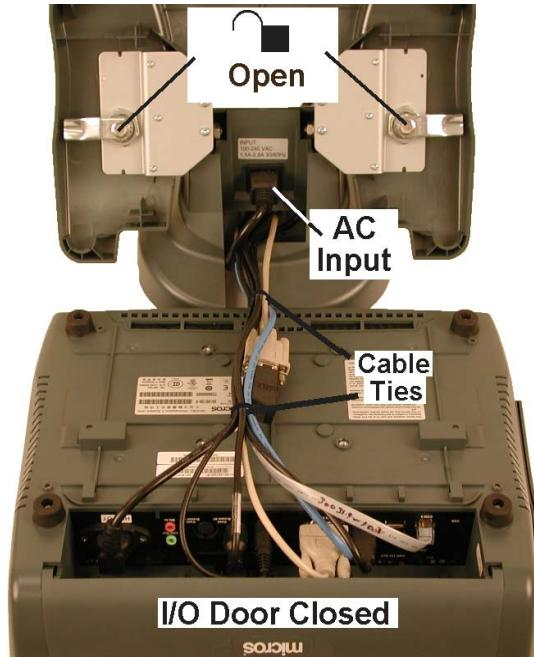

Figure 4-7: Preparing to attach the Workstation to the optional Stand
2. Refer to Figure 4-7, and prepare to mount the workstation on the stand.
- Cable the workstation. Several cable tie points are provided in the cover, and a pair of re-usable velcro cable ties supplied with the stand can be used to bundle the cables. Figure 4-7 shows two cable ties, but these may not be needed in some situations.